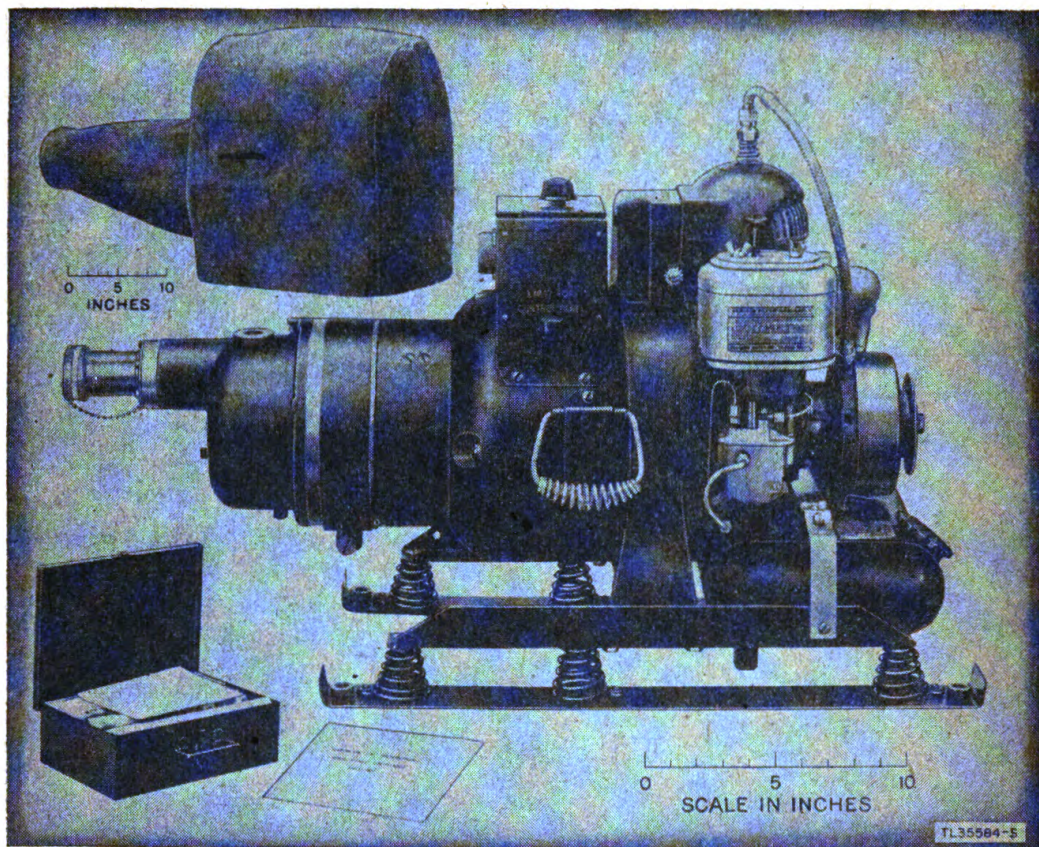

Figure 4. Power Unit PU-6/TPS-1.
6. POWER UNIT PU-6/TPS-1 (fig. 4).